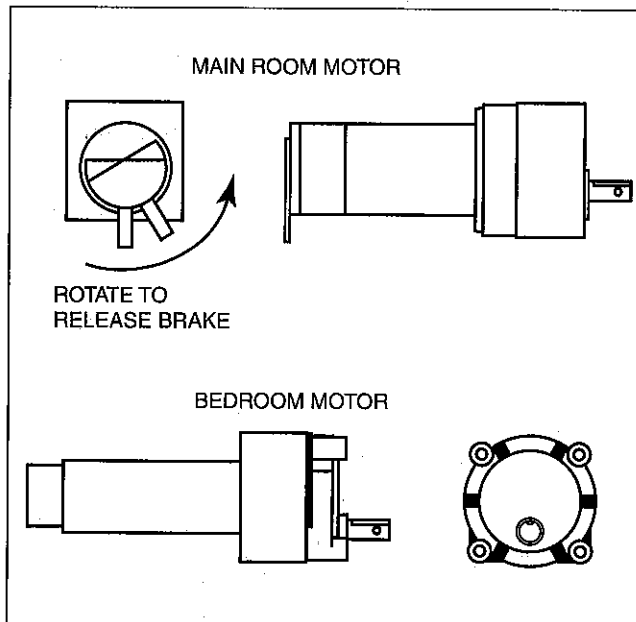

Figure 2 – Drive Motors
3. Locate the brake release lever on the back side of the motor (Figure 2). Rotate the lever **COUNTERCLOCKWISE** (looking from the rear or tail of the motor) about $\frac{1}{8}$ turn to release the brake mechanism that locks the room into place.
3. Using a 1/2" wrench, loosen the four motor mounting bolts (Figure 2). Remove the slide-out motor.